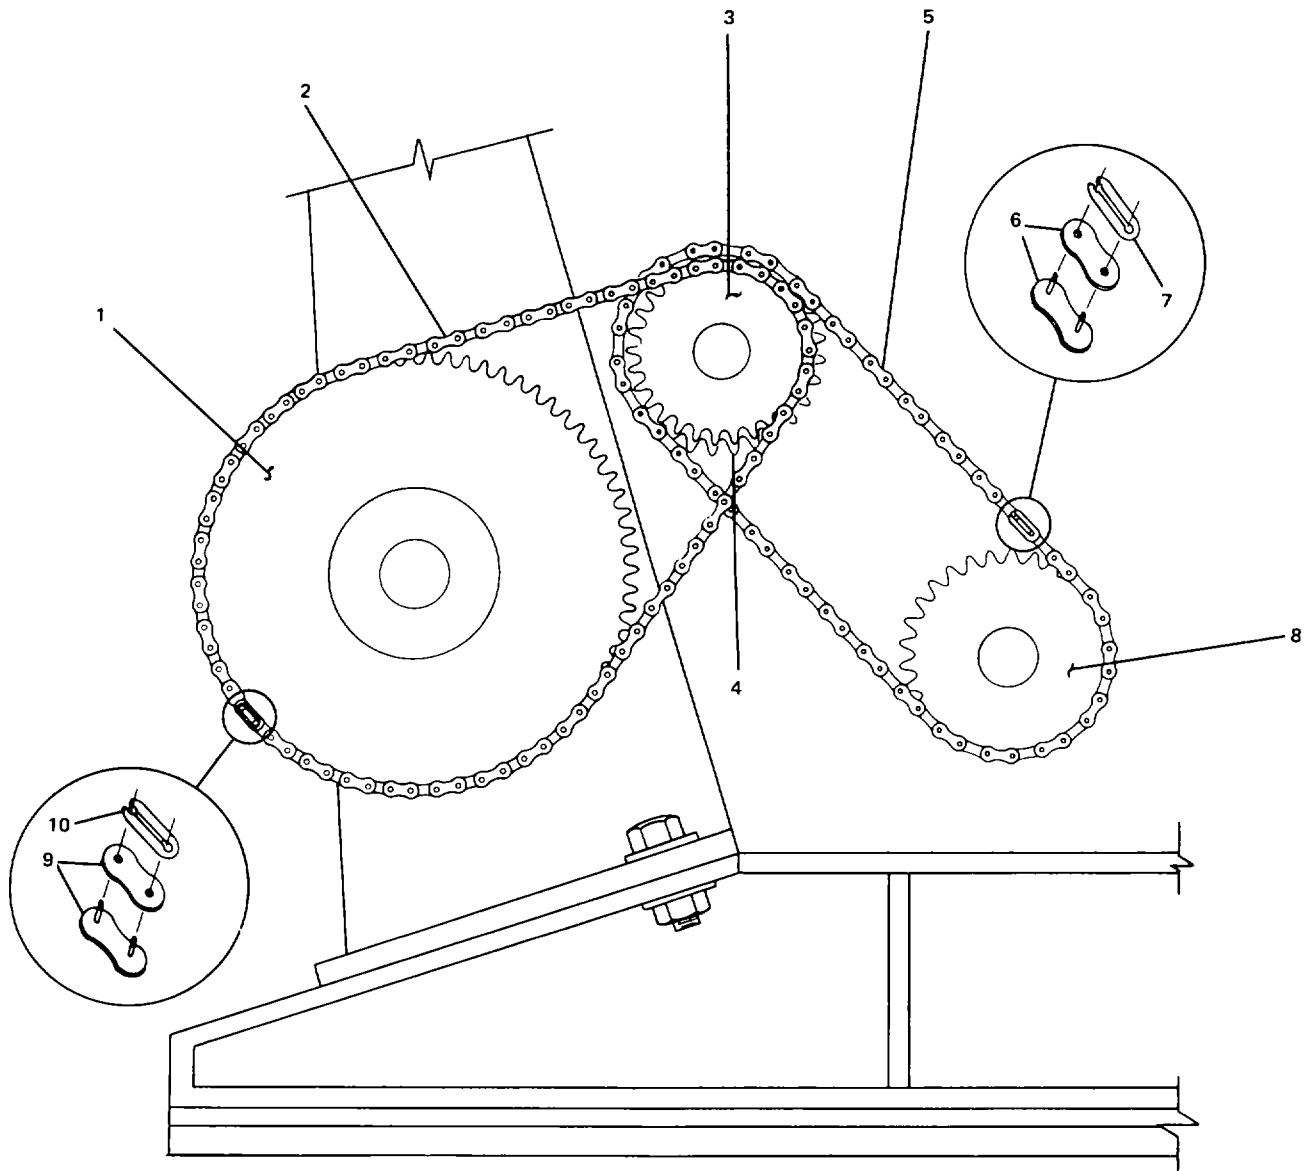
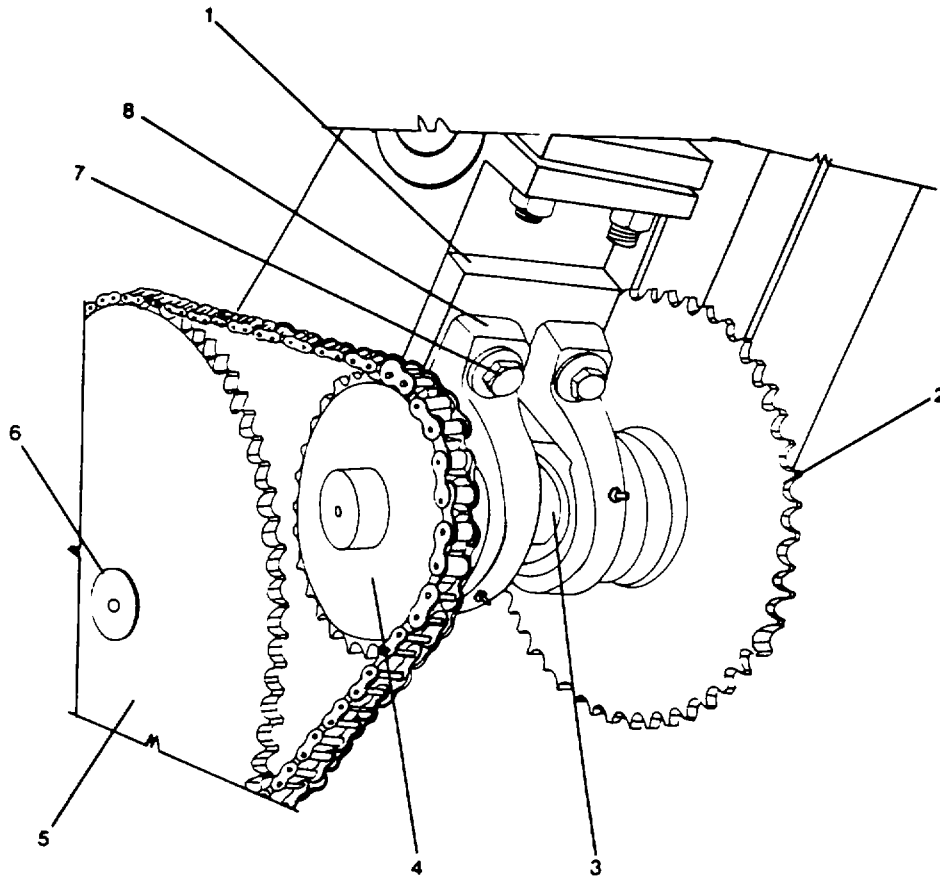
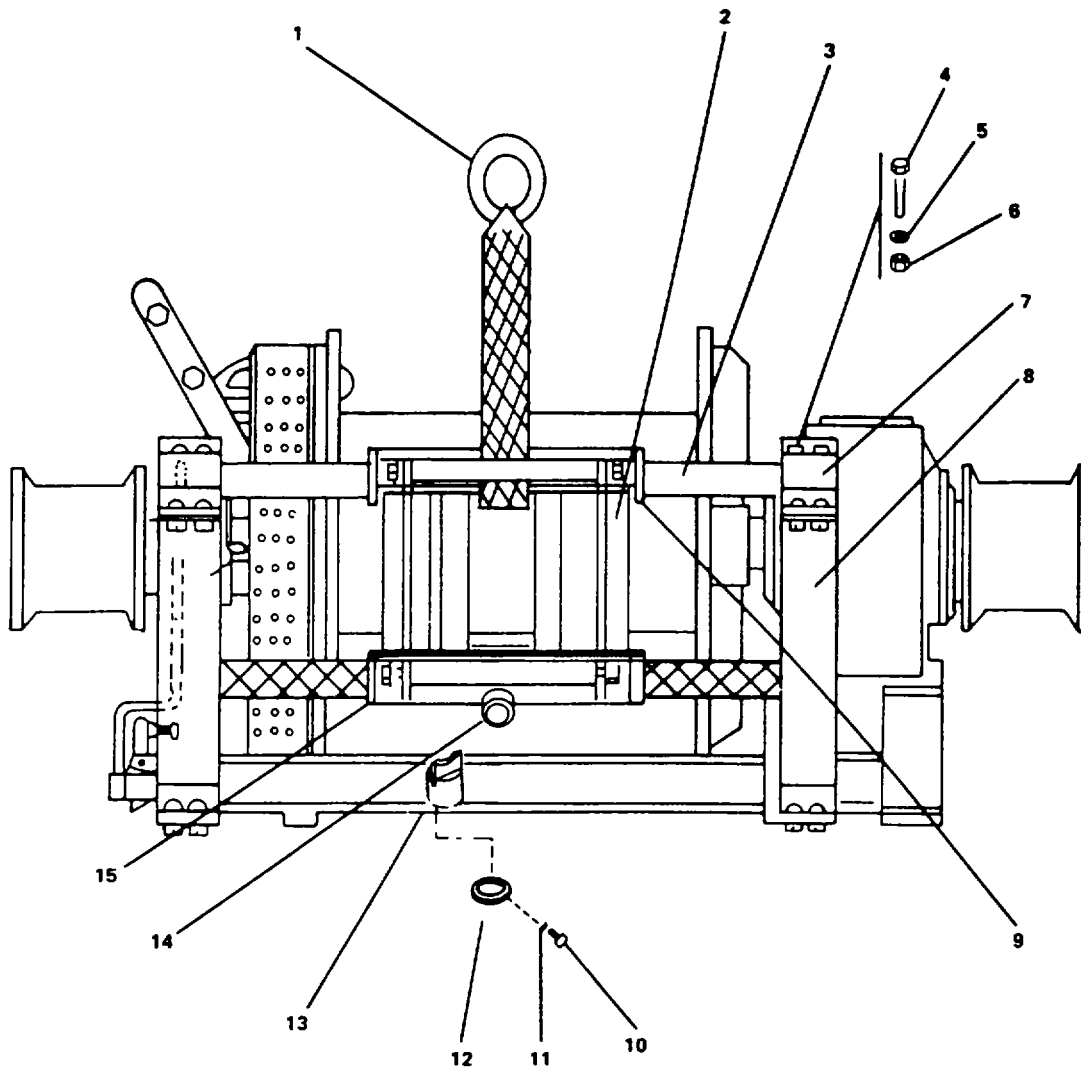

FIGURE 4-6. Chain/Wheel Sprocket Assembly
FIGURE 4-7. Wheel Sprocket and Bearing Assembly.
FIGURE 4-8. Stern Anchor Winch Levelwind Assembly.
- (3) Remove retaining clip (10, FIGURE 4-6) from detachable link (9, FIGURE 4-6).
- (4) Disengage detachable link.
- (5) Remove levelwind chain (2, FIGURE 4-6) from wheel sprockets (1, 3, FIGURE 4-6).
- b. Chain (Drive). (FIGURE 4-6)
- (1) Remove retaining clip (7) from detachable link (6).
- (2) Disengage detachable link.
- (3) Remove chain (5) from wheel sprockets (4, 8).
- c. Wheel Sprocket (60B28). (FIGURE 4-7)
- (1) Loosen setscrew.
- (2) Withdraw wheel sprocket (2) from shaft (3).
d. Wheel Sprocket (60B48). (FIGURE 4-7)
- (2) Withdraw wheel sprocket (4) from shaft (3).
e. Wheel Sprocket (60B77). (FIGURE 4-7)
f. Bearings. (FIGURE 4-7)
- (1) Remove four hexagon head capscrews (7) securing bearing caps (8) to levelwind side frame (1).
- (2) Remove bearing caps (8) and shaft (3).
- (3) For disassembly refer to DISASSEMBLY procedures, step a.
g. Shaft Guide. (FIGURE 4-8)
- (1) Slide lifting sling (1) under the top section of the levelwind carriage (2) as shown in FIGURE 4-8 with tension taken off shaft guide (3).
- (2) Remove eight hexagon head capscrews (4), hexagon plain nuts (6) and lockwashers (5) securing access covers (7) to top of levelwind side frames (8).
- (3) Remove access covers (7).
- (4) Slide shaft guide (3) across top of levelwind side frames (8) and through top section of levelwind guide (9).
- (5) Remove shaft guide to a secure area.
- (6) Lifting device and sling is temporarily left in place to support levelwind carriage during removal procedures.
h. Diamond Shaft Pawl. (FIGURE 4-8)
- (1) Remove four hexagon head capscrews (10) and lockwashers (11) securing pawl cap (12) to pawl cap flange (14) which is welded to the lower section of levelwind guide (15).
- (2) Separate and remove pawl cap (12) from pawl cap flange (14).
- (3) Remove diamond shaft pawl (13) from interior of pawl cap flange (14).